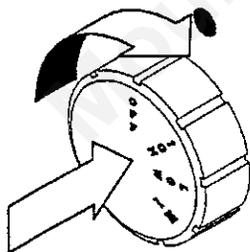

Figure 21: IGN Position
5. Depress and turn the control knob counterclockwise  to the IGN position. See *Figure 21*. Press and hold control knob for 5 seconds.